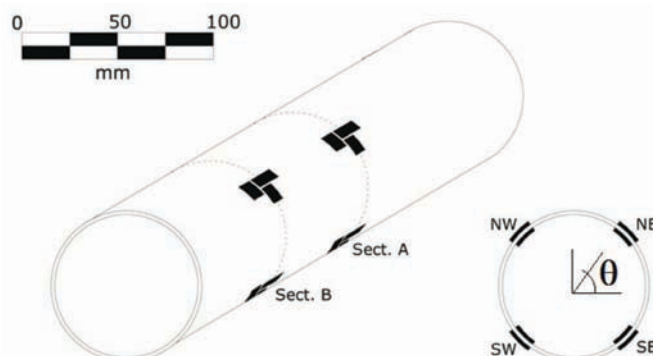

Figure 2. Instrumented model tube. Positions of the strain gauges.
The tube has been instrumented in order to measure bending moments (BM) and hoop forces (HS) at 4 locations along 2 transverse sections (Fig. 2).